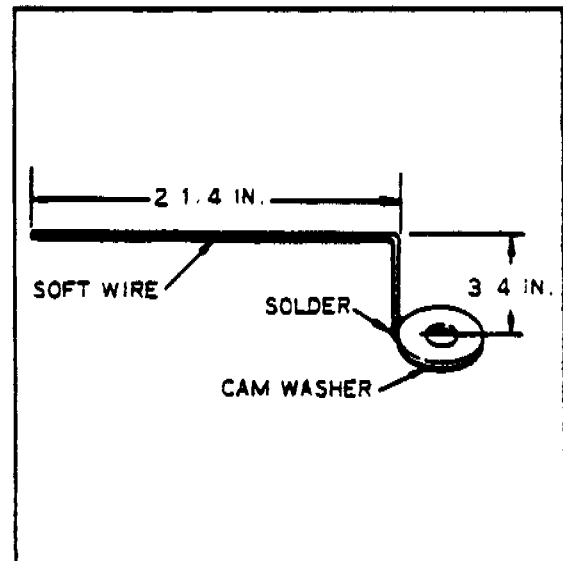

FIGURE 7A-18. TIMING POINTER
c. Rotate coupling from neutral, in a left hand direction 10° . Appearing through timing hole, when the white or red tooth aligns with the white line of the distributor block, the magneto is set at "E" gap. (Refer to Figure 7A-17.) Alignment may not vary over 4° .